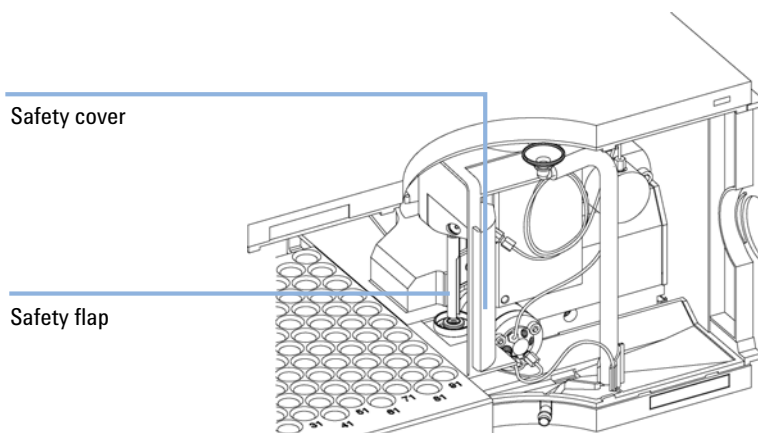

Figure 13 Safety Flap
- Do not bend the safety flap away from its position, or attempt to remove the safety cover (see Figure 13 on page 42).